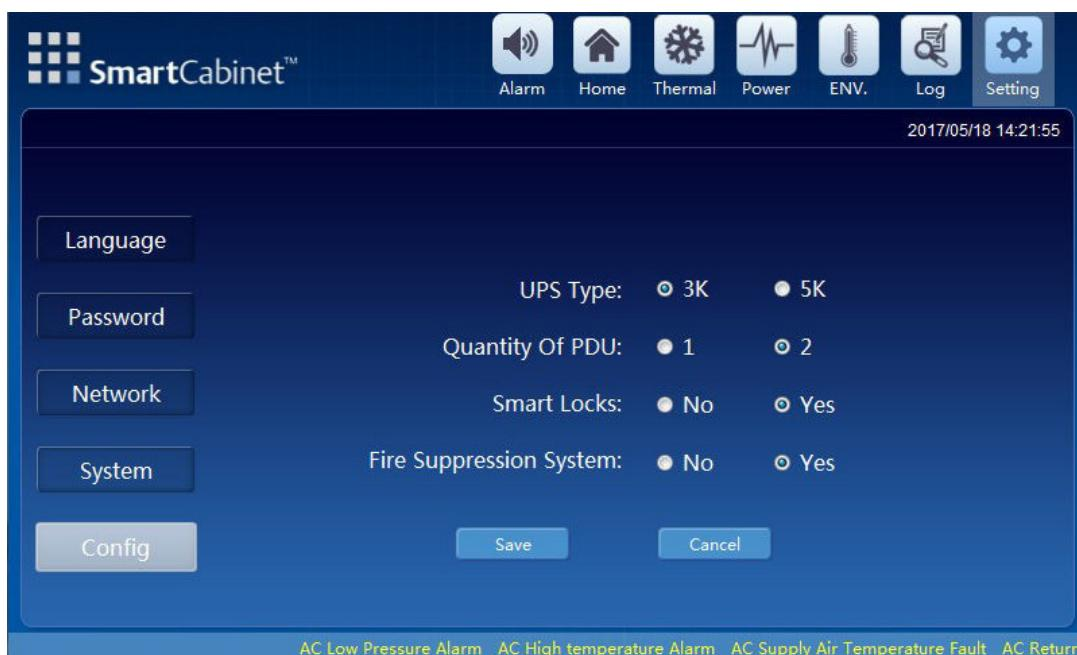

Figure 3-5 Setting and Configuration function
2. Click on the Setting icon on the top right side of the screen following which you need to click on the Config icon. The configuration screen as shown in Figure 3-5 is displayed.
3. Choose the respective configuration options based on the equipment connections as shown in Figure 3-5: